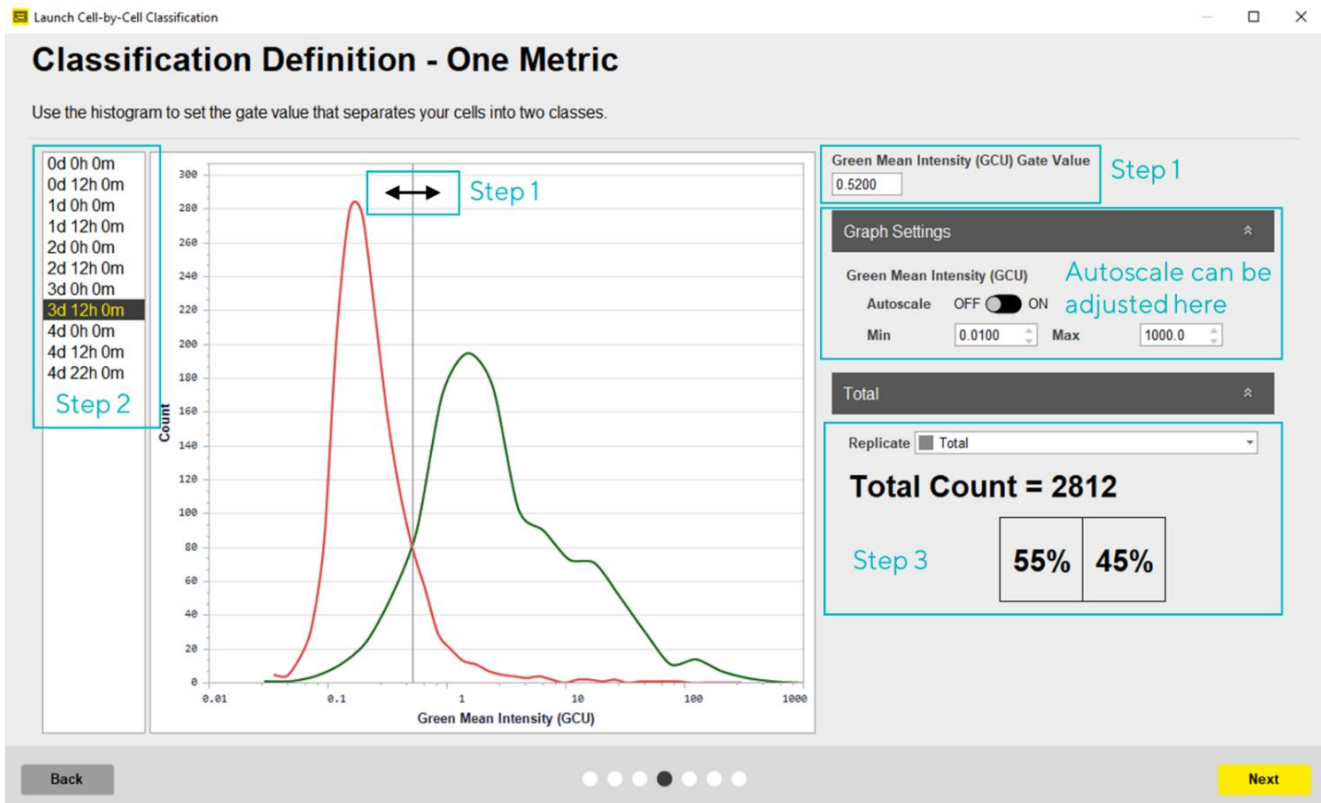

Figure 7. Classification definition – setting gates with one metric.
5. Gating Values may be set using one of two methods (Figure 7). The first allows you to drag the gates to a position you think appropriate, the second allows you to input values directly into the Gate Value input field (Step 1).